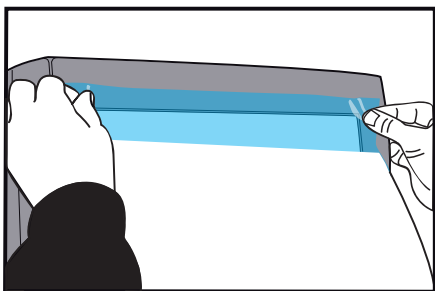

Figure 11
- › Remove approx. 10 cm (4 in) of the liner and stick the film on the edge of the screen. (FIG. 11)